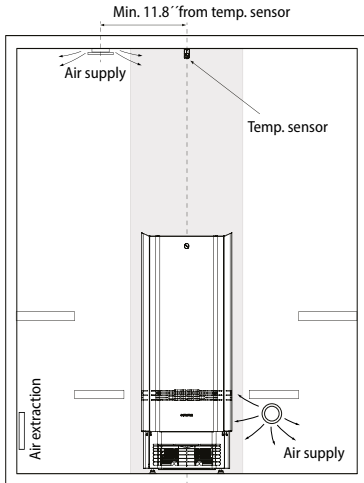

Figure 9
The air supply and exhaust shown in the **Figure 9** and **10** are illustrative and their location may change according to the size and shape of the room
1. Place the climate device in the sauna room, making sure that all safety distances are met (**Tabel 1** page 7, **Figure 9** and **10** page 14-15) and that the device is installed securely.